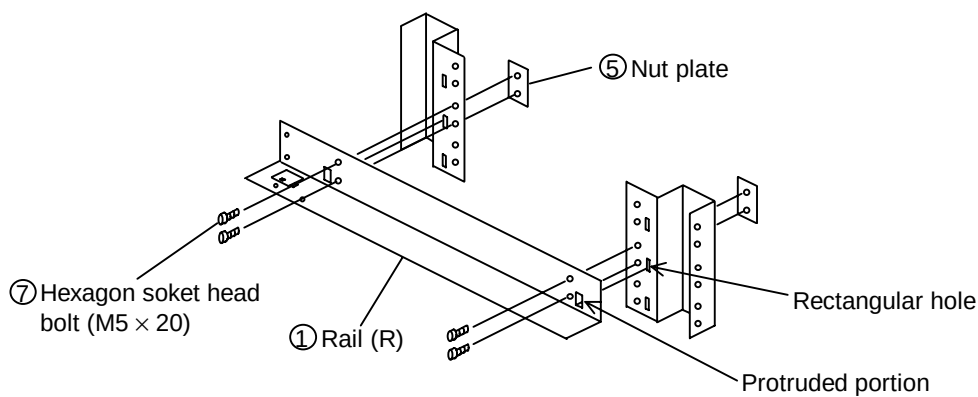

Figure 3.4.4 Securing the Rail to the Rack Frame
- (2) Insert the protruded portions of the ① Rail (R) into the rectangular holes on both the front and rear sides of the rack frame at right hand side of the desired installing position. (See Figure 3.4.4.)
- (3) Position the ⑤ Nut plates (for securing rails aligning their holes with the holes of the rail) and the rack frame and secure the ① Rail (R) with two ⑦ Hexagon socket head bolts (M5 × 20) (at two places each on the front and rear sides). (See Figure 3.4.4.)
- (4) Temporarily attach the ④ Stopper (L) to the ② Rail (L), and secure the ② Rail (L) to the rack frame in the same way.